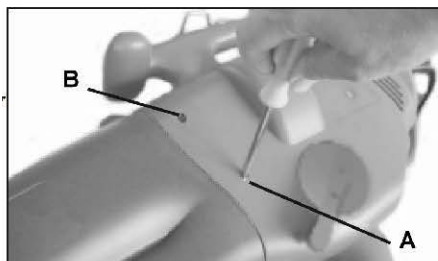

Fig. 3
- Secure screws on both sides of position A and B. The screws are enclosed in the accessories. (Two ST5x16 screws for position B, two ST4x16 screws for position A) Make sure the suction/blowing pipes are firmly closed with the housing (Fig. 3).
Switch the machine on. Hold the machine, tilting the Blower/Suction tube slightly, and use a sweeping action to collect light debris with approximately 5cm distance between the opening of the Blower/Suction tube and the floor or ground to be cleaned up (refer to Fig.3). The leaves will be sucked up into the tube, chopped up and thrown into the collection bag